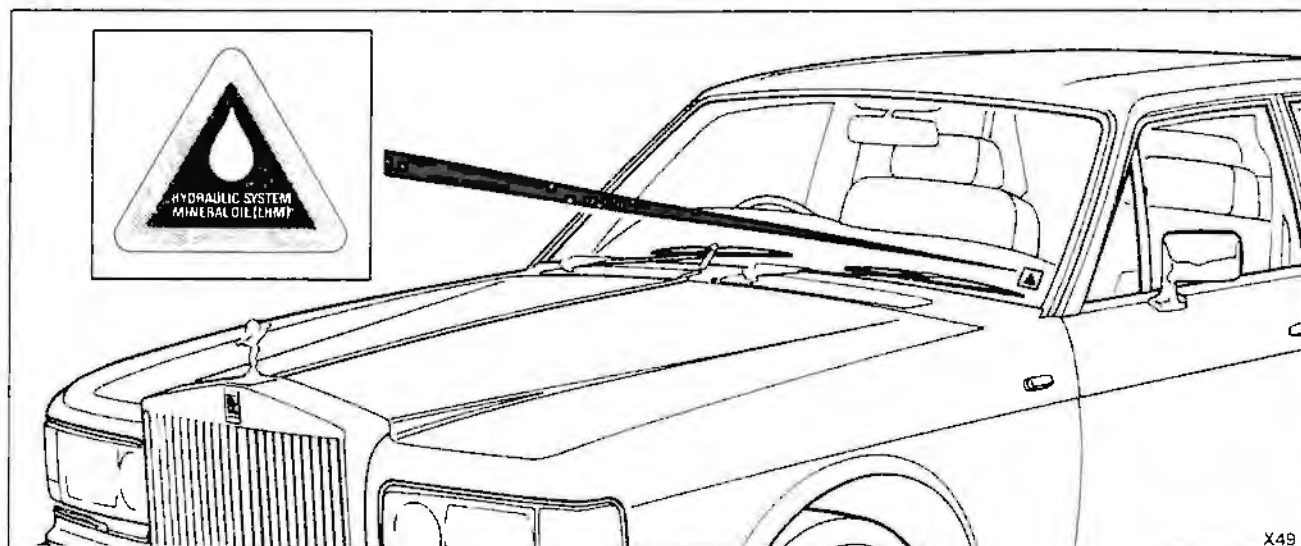

Fig. 4
3. The small windscreen sticker with the Hydraulic System Mineral Oil motif will also be found in the glove box. It should be attached to the lower left-hand corner of the windscreen (see fig. 4) at the time of delivery.